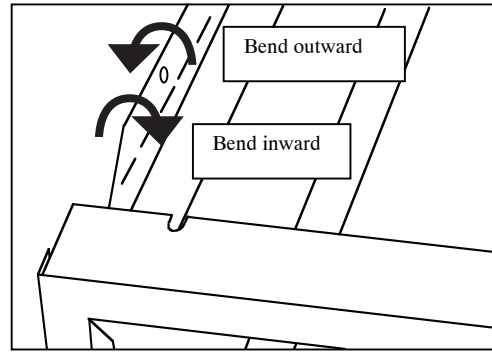
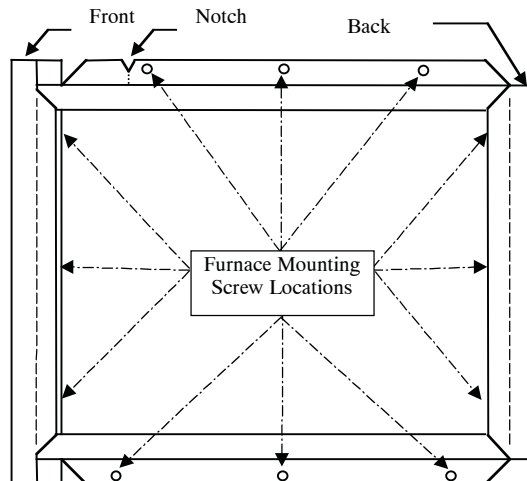

Fig. 13 - Furnace Mounting Flange Bend Direction Diagram
Fig. 18 - Side Return Screw Locations
*See Flange Bend Direction Diagram, Fig. 13
- c. Fig. 13 shows the furnace mounting flange bend direction. Table 2 shows which direction to bend the furnace mounting flange for different size furnaces as determined in Step a. Bend the furnace flange as directed in table.
NOTE: For condensing type, high-efficiency furnaces, remove blower shelf shipping screw at 1-in. from the back on the return side of the casing. For right side return and right side venting (see furnace installation instructions), cut the filter cabinet flange at the notch (See Fig. 18) and bend the short flange inward. (See Fig. 13.)
- a. Bend furnace side flanges outward. (See Fig. 13.)
- d. Install 12 self-tapping, 1/2-in. screws (not provided) as shown in Fig. 18. Screws for front and back flanges should be located at the provided notches.